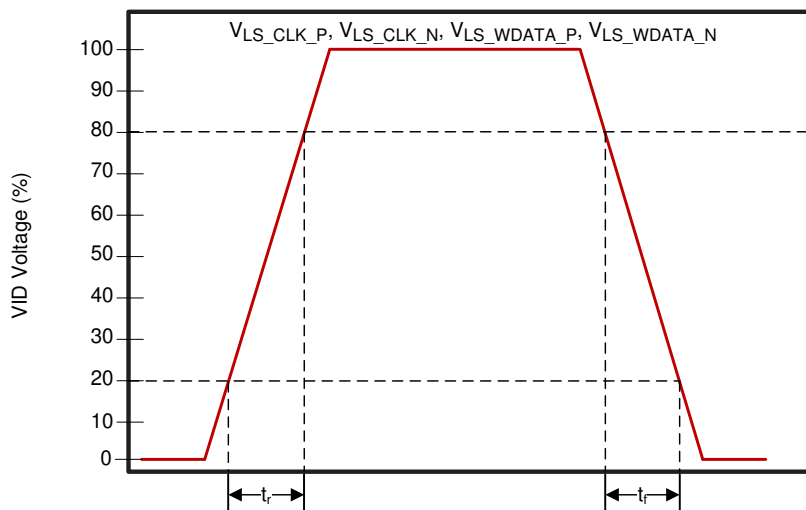

FIG 6-6. LSIF Rise, Fall Time Slew Rate
(2) See Figure 6-6 for rise and fall time for LSIF.